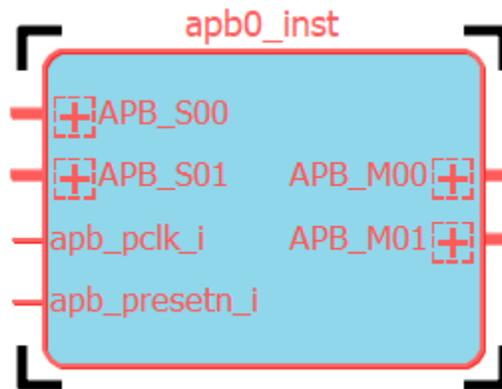

Figure 2.42. Select Module
- a. Select the desired module block. The block is highlighted in red with black corners (Figure 2.42).